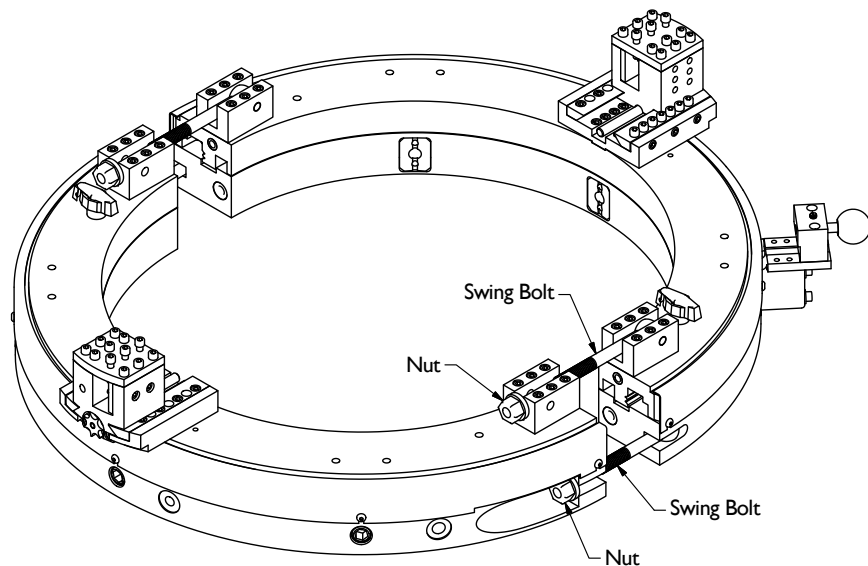

Figure 2 - Separate Clamshell Halves
2. Loosen the nuts holding the four swing bolts. Separate the two clamshell halves by pulling straight apart. Do not pry or force open with tools. See Figure 2.